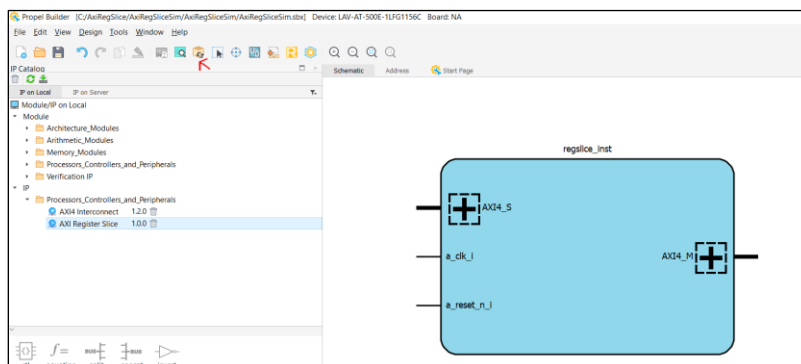

Figure 2.23. Generating the Design
9. The configured IP is now inserted into the design canvas as shown in Figure 2.23. Click on the **Generate** button to generate the design.